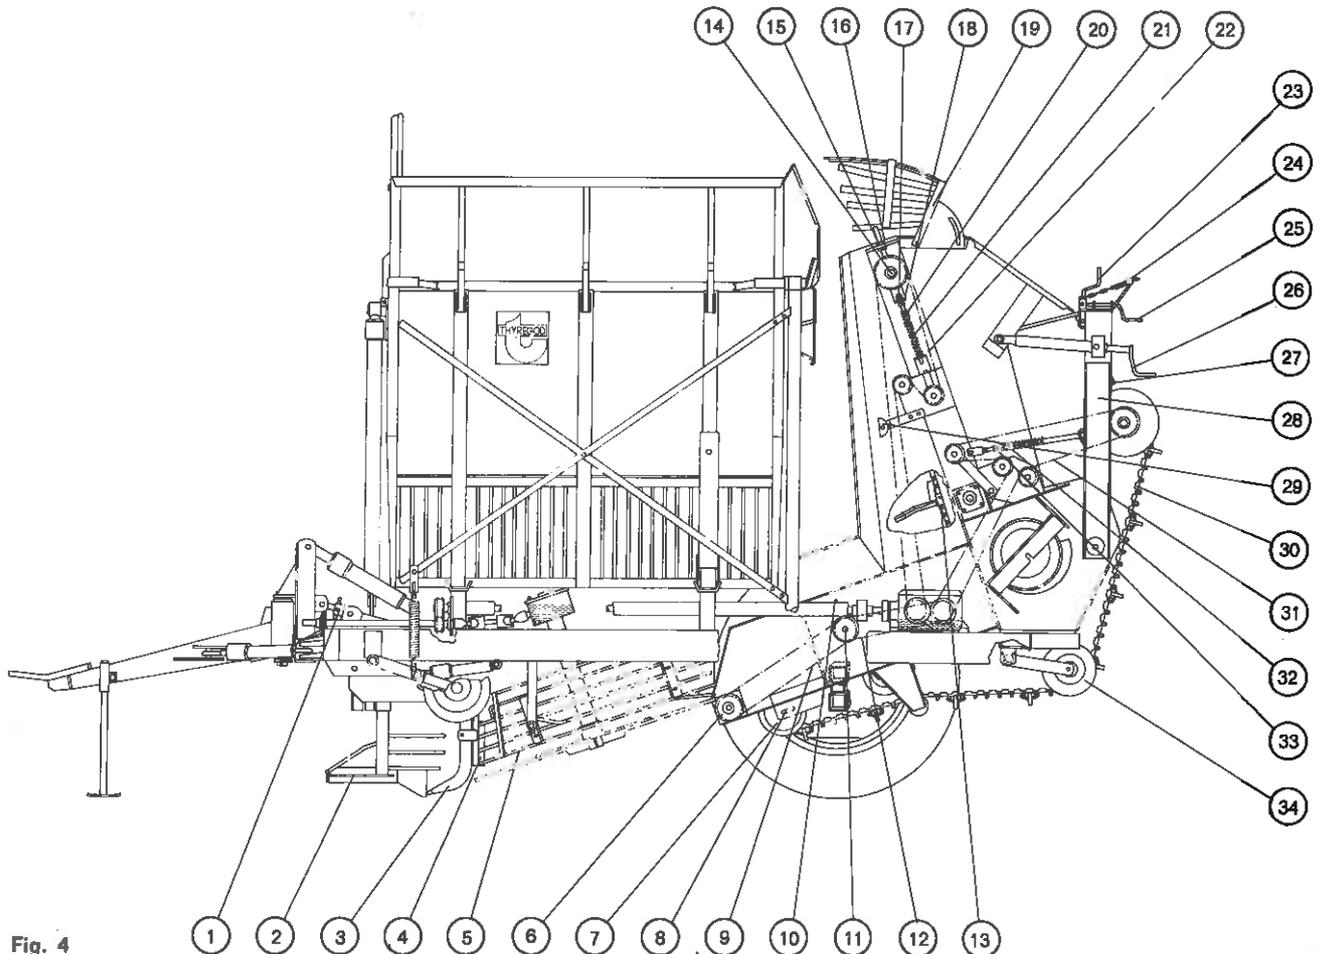

Fig. 4
The control is made by adjusting the nut (1 fig. 4). The nut functions as mechanical depth stop and is adjusted to the maximum depth, with which you wish to drive when the tank is empty. When the tank is filled gradually the wheels sink deeper then you lift the shares a little by means of the lever (7 fig. 1). 1 or 2 times for each tankfull.
The guideways (2 fig. 4) and the digger irons (3 fig. 4) are adjusted in the depth in proportion to the knurled wheel.
The knurled wheel must go in the surface. The digger irons are now adjusted so that the branches lead the beets up on the knurled wheel. The guide ways are adjusted so that they go 2-3 cm in the surface with their foremost part. For digging of factory beets the digger irons (3 fig. 4) are replaced by fork irons.
On machines equipped with automatic dept control as additional equipment the control is made with the handle (7 fig. 1). If the handle is pushed forward the shares are lifted. In central position the schares are locked. If the handle is pushed backward the shares sink to the depth determined by the feeler which is automatically kept during the driving. Also here the nut (1 fig.4) functions as mechanical depth stop. It is not advisable to back with the machine with the shares in the soil at automatic depth control.
Flag (4 fig. 4) and screen (5 fig. 4) are adjusted in height so that a maximum cleaning is achieved without waste of beets. The branches of the flag are adjusted to 1-2 cm distance to the screen (5 fig. 4).
Foremost chain drive (1 fig. 2) is tightened by the tension block (2 fig. 2). Foremost chain drive (9 fig.4) and hindmost chain drive (12 fig. 4) for cleaning cylinder (6 fig. 4) are tightened by the nut (10 fig. 4). Nut (11 fig. 4) is loosened be-
Elevator chain (13 fig. 4) is tightened at the upper axle (14 fig. 4) by loosening the nuts (16 fig. 4) and tightening the nuts (15 fig. 4), first time after 8 hours' driving and hereafter daily control. Elevator chain drive (22 fig. 4) is compensated for tightening of elevator chain and spring-loaded. The spring (21 fig. 4) is tightened by the nuts (20 fig. 4). Limitation of maximum out-flexion at blocking is adjusted by the nuts (17 and 18 fig. 4). The tension block (29 fig. 4) must lie round towards the chain to avoid chain sling. When the chain cannot be tightened any more e. g. at replacement of elevator chain (13 fig. 4) links must be removed from the chain (22 fig. 4).
The life of the elevator chain (13 fig. 4) can be prolonged if you turn over the chain before the links are worn through to the rivet. The turn is made by moving the left-hand chain part to the right side and right-hand chain part to the left side. The split pins must also after the turn face towards the centre of the chain. The life of the chain can by this be prolonged by appr. 50%.
**Chain Drive (31 fig. 4) for Bottom Chain (30 fig. 4)** is compensated for adjustment of rotating bracket (28 fig. 4) and spring-loaded. The spring (32 fig. 4) is tightened by the nuts (33 fig. 4). When the chain cannot be tightened any more with the rotating bracket longest forward links must be removed from the chain (31 fig. 4).
**Bottom Chain (30 fig. 4)** is tightened by tension rollers (34 fig. 4). The tension rollers are spring-loaded by spring suspended in the right side of the machine.
**Foremost Chain Rollers (7 fig. 4)** for bottom chain can be adjusted in the oblong tracks (8 fig. 4) on each side of the machine. If the distance between the chain roller (7 fig. 4) and the cleaning roller (6 fig. 4) is increased as much as the size of the beets allow, the cleaning ability of the machine is increased.
The rotating bracket (28 fig. 4) can be adjusted by the spindle (26 fig. 4). If the rotating bracket is laid to the rear the upwards moving part of the bottom chain becomes more flat so that the beets remain longer on the bottom chain before they fall over into the elevator chain. At the upper end the beets are prevented from moving on to the rear by spring-loaded scrapers (27 fig. 4) while earth pebbles weeds and top remains follow with the chain to the rear of the machine. To achieve maximum cleaning ability the distance between the scrapers and the bottom chain can be adjusted by the levers (23 fig. 4). The angle of the scrapers in proportion to the bottom chain is adjusted by the lever (25 fig. 4). The spring tension of the scrapers is adjusted by the springs (24 fig. 4).